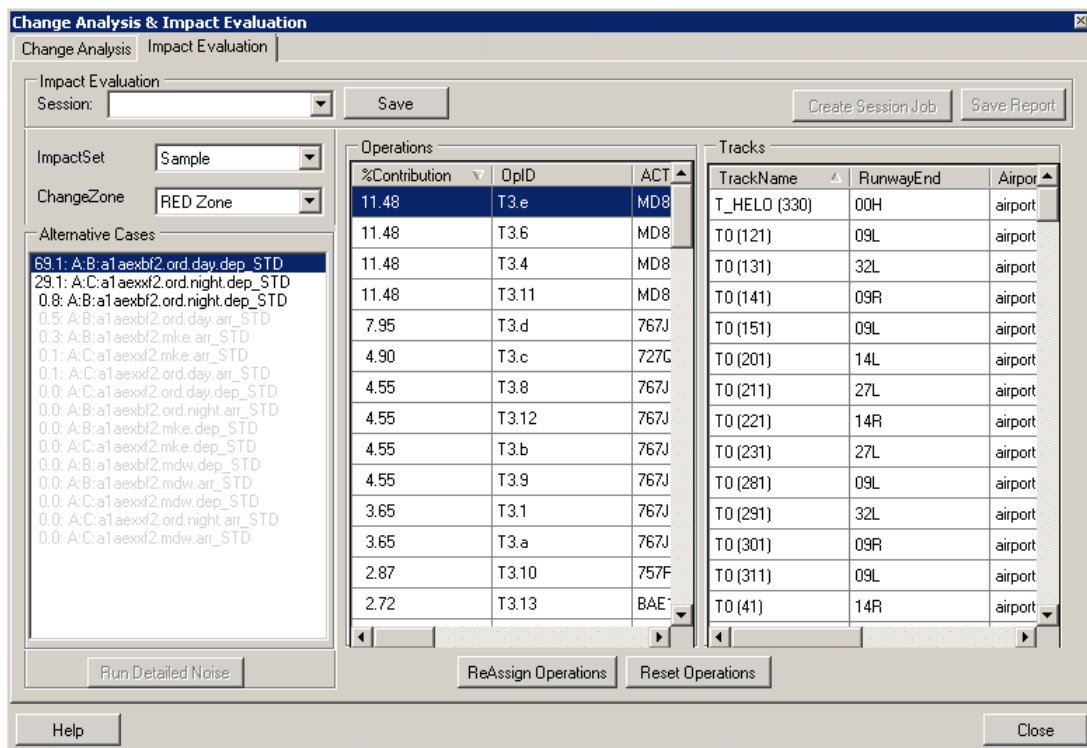

Figure 8-12 Change Analysis & Impact Evaluation Dialog Box
1. Select an *Impact Set* and a *Change Zone* from the drop-down menus (Figure 8-12).